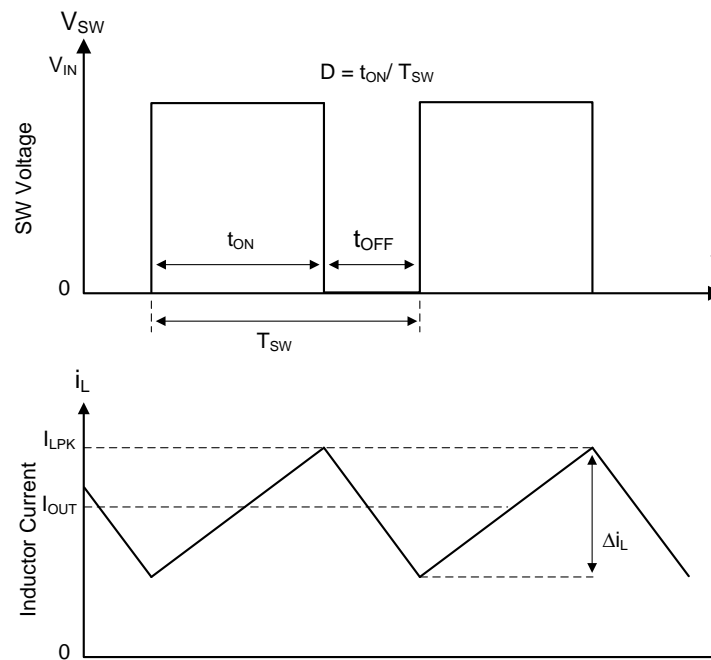

Figure 10. SW Node and Inductor Current Waveforms in Continuous Conduction Mode (CCM)
The following operation description of TPS560430-Q1 will refer to the Functional Block Diagram and to the waveforms in Figure 10. TPS560430-Q1 is a step-down synchronous buck converter with integrated high-side (HS) and low-side (LS) switches (synchronous rectifier). The TPS560430-Q1 supplies a regulated output voltage by turning on the high-side and low side NMOS switches with controlled duty cycle. During high-side switch ON time, the SW pin voltage swings up to approximately V_{IN} , and the inductor current i_L increases with linear slope $(V_{IN} - V_{OUT}) / L$. When the high-side switch is turned off by the control logic, the low-side switch is turned on after an anti-shoot-through dead time. Inductor current discharges through the low-side switch with a slope of $-V_{OUT} / L$. The control parameter of a buck converter is defined as Duty Cycle $D = t_{ON} / T_{SW}$, where t_{ON} is the high-side switch ON time and T_{SW} is the switching period. The converter control loop maintains a constant output voltage by adjusting the duty cycle D . In an idea Buck converter, where losses are ignored, D is proportional to the output voltage and inversely proportional to the input voltage: $D = V_{OUT} / V_{IN}$.